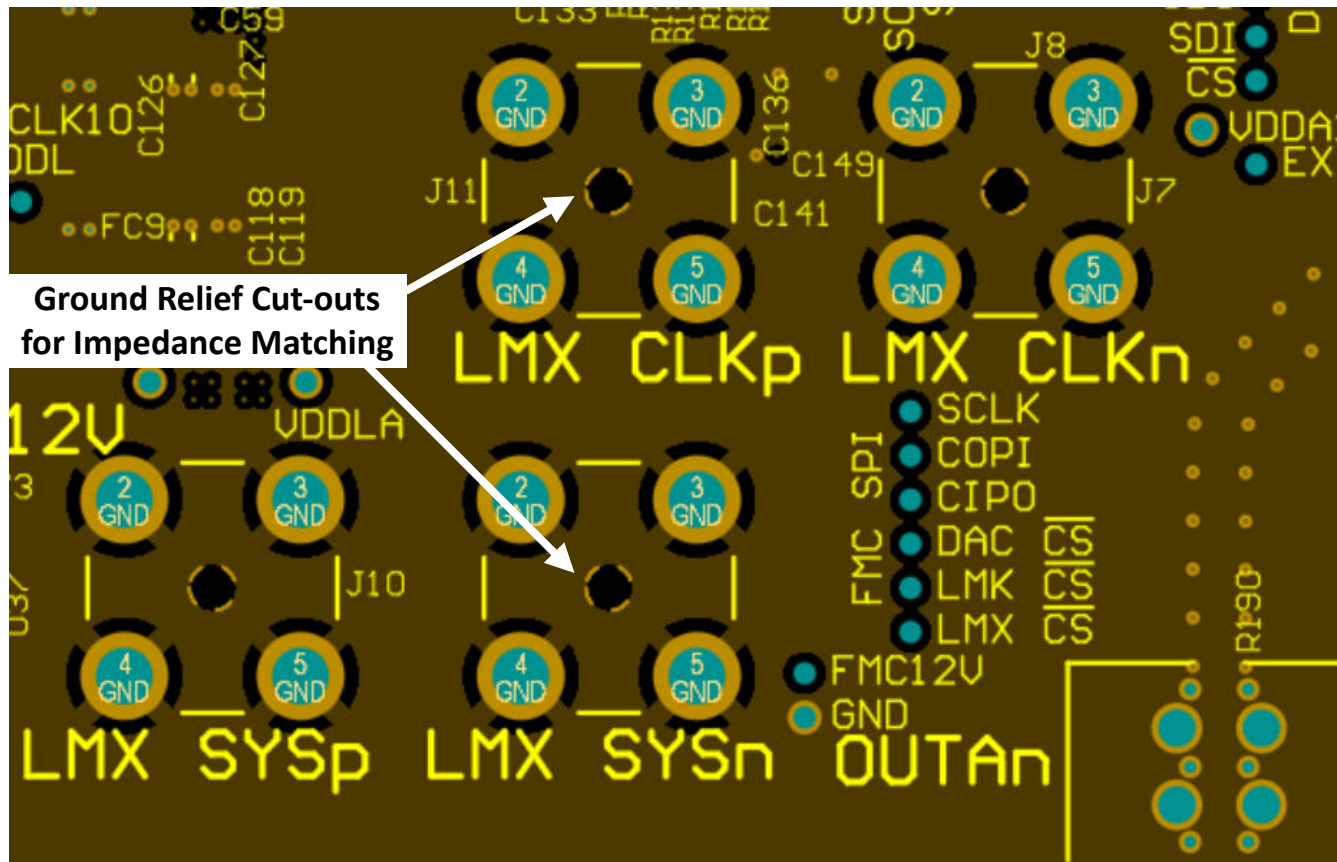

図 8-25. Ground Cut-out Below SMA Connector Center Pin
5. Incorporate any ground plane cutouts necessary at component landing pads, ie – SMA connectors, baluns, etc., to avoid impedance discontinuities at these locations. Cut-outs below these landing pads on one or multiple ground planes to achieve a pad size or stackup height that achieves the needed 50-Ω, single-ended impedance. See 図 8-24 and 図 8-25 as an examples.